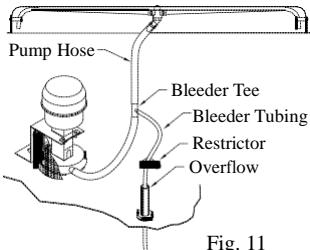

Fig. 11
- Install Bleeder Tee and Tubing.** Refer to figure 11. Cut the pump hose and insert the barbed ends of the bleeder tee into each cut end. Insert one end of the bleeder tubing onto the bleeder tee and run the other end out of the cooler through the overflow pipe. **Note:** A restrictor clamp is provided which, if desired, may be installed onto the bleeder tubing to restrict the amount of water being bled off. The amount of water to bleed off depends on the quality of the water in your area. Start with 1-2 gal/hr and increase if needed.